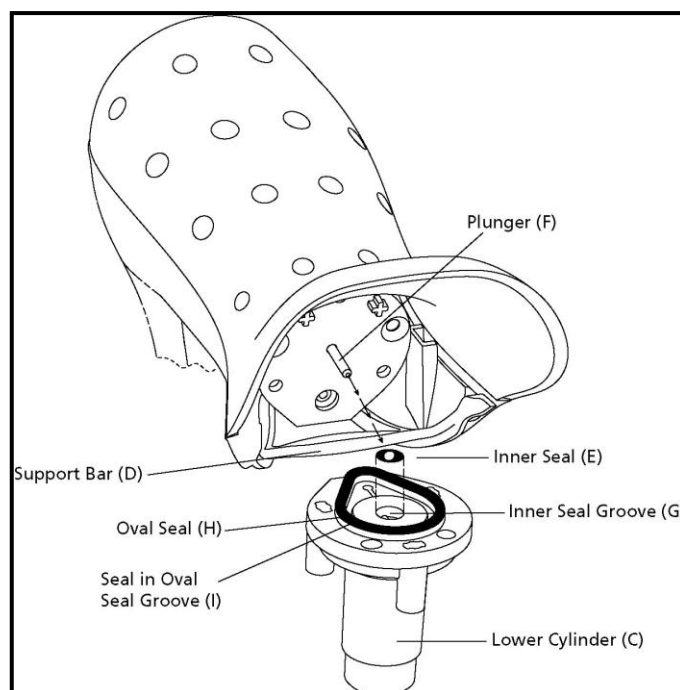

Figure 5 Lower Cylinder Assembly
13. Coat the new Inner Seal “O” Ring (E in Figure 5) with a small amount of silicone oil from the Spares Kit and position the seal in the Inner Seal Groove (G).
14. Place the new Oval Seal “O” Ring (H) in the Oval Seal Groove (I). Ensure the oval seal is fully seated in the groove.